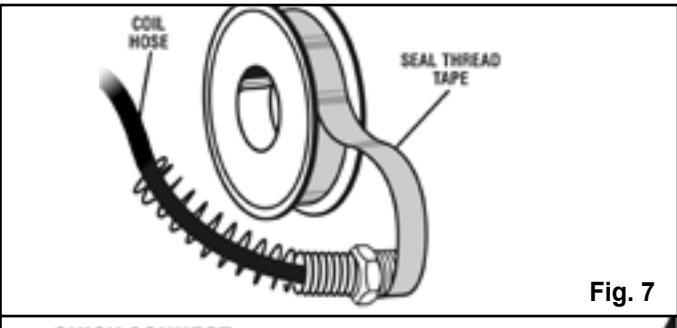

Fig. 7
4) ATTACHING HOSE TO COMPRESSOR (See Fig. 7 - 9)